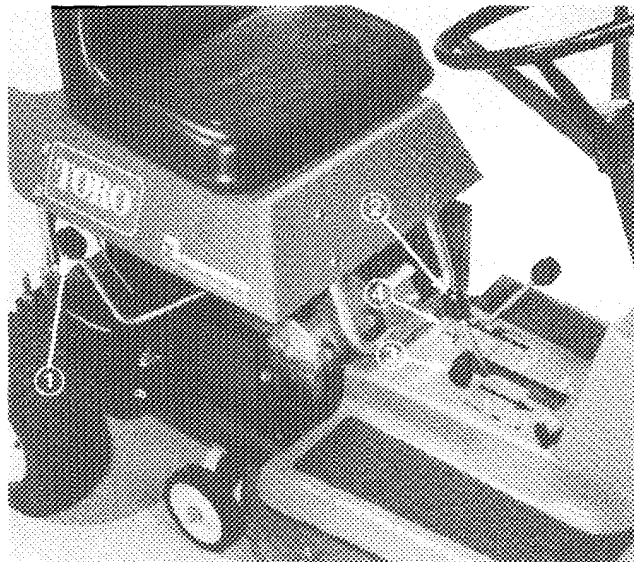

Figure 9
2. Move gear shift into neutral and blade control into DISENGAGE detent (Fig. 9).
3. Move throttle control fully forward to CHOKE position (Fig. 9) when starting a cold engine. However, a hot engine requires no choking; move throttle between FAST and IDLE for starting.
4. Rotate ignition key (Fig. 9) to START position. When engine starts, release the key and move throttle between FAST and IDLE if choke was used for starting.
1. Shut engine off and move blade control into DISENGAGE detent (Fig. 9).
2. Move height-of-cut control (Fig. 9) to desired cutting height.
1. Move blade control into DISENGAGE detent (Fig. 9).
2. Move height-of-cut control (Fig. 9) into desired setting.